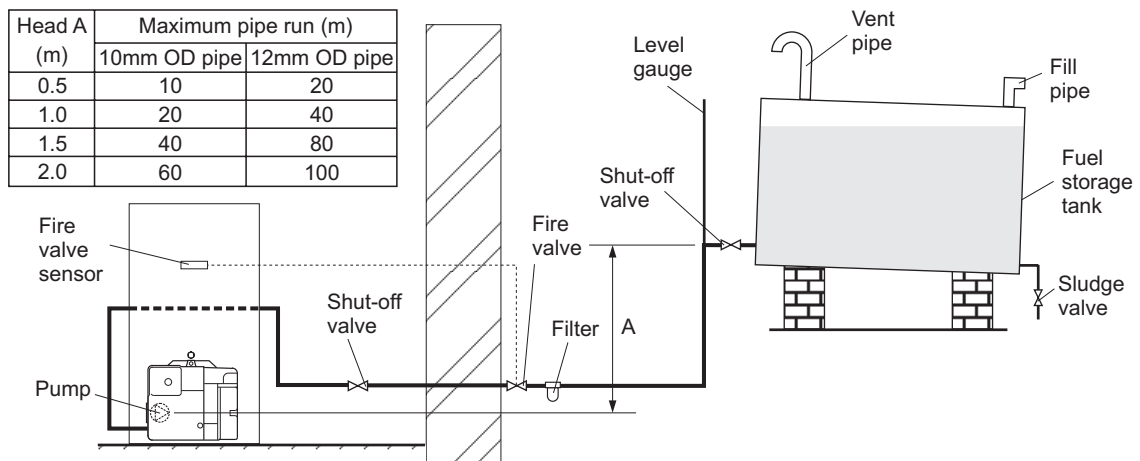

Fig. 3 - Single pipe system
- 5 A flexible fuel line, adaptor and $\frac{1}{4}$ " BSP isolation valve are supplied loose with the boiler for the final connection to the burner. If a two pipe system or 'Tiger Loop' type de-aerator is used, an additional flexible fuel line (600 mm) and $\frac{3}{8}$ " to $\frac{1}{4}$ " BSP male adaptor are available to purchase from Grant Engineering (UK) Limited, Part No. RBS104.
4.4.3 Single pipe system - (See Fig. 3)